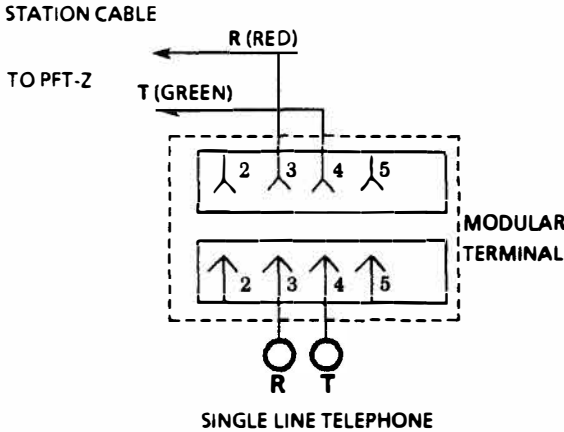

Figure 200-10 Simplified Schematic - Single Line Telephone Connection for Power Failure Transfer
- When Single Line Telephones are installed in the system to operate as *Power Failure Transfer* telephones, connection on the PFT-Z KTU is necessary. Refer to Figure 200-10 Simplified Schematic - Single Line Telephone Connection for Power Failure Transfer.